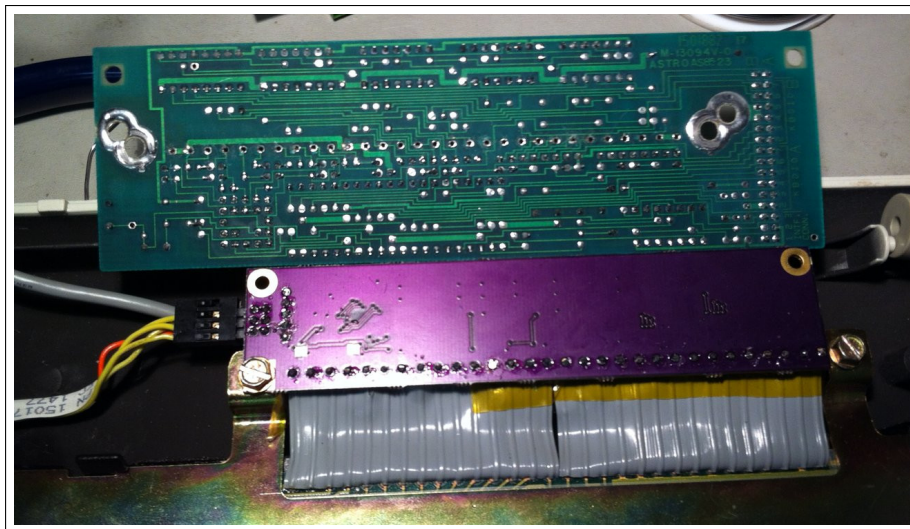

Figure 2: New controller (Rev1) correctly installed into PC-AT, next to old controller
2. Correctly orientate the controller. The text/logo on the controller should be visible and readable if you were viewing the keyboard from a normal typing position (if the top cover is still in place, imagine you are looking through it). See Figure 2 for an example.